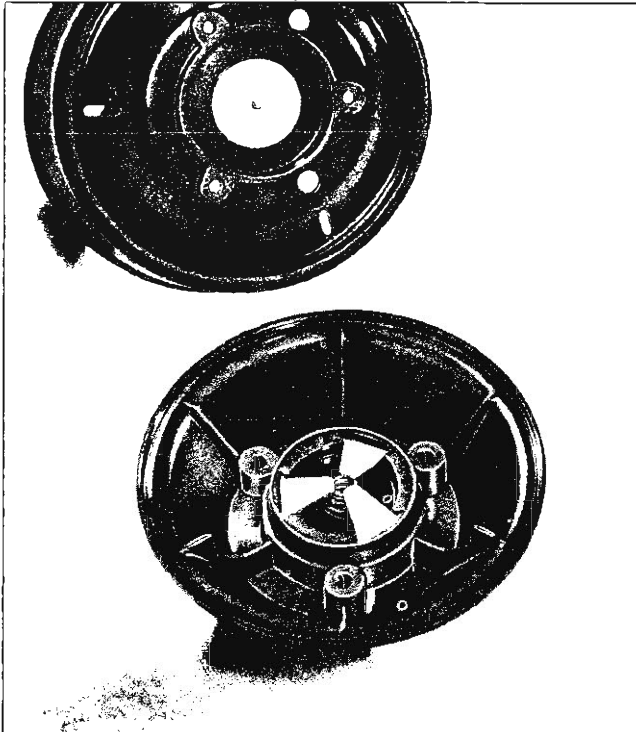

Fig. 26—Disassembling Power Piston
6. Support power piston so that it will remain in an upright position (main cylinder push rod up). Remove hex head screws that secure support plate to power piston, and remove support plate from piston assembly (fig. 26).